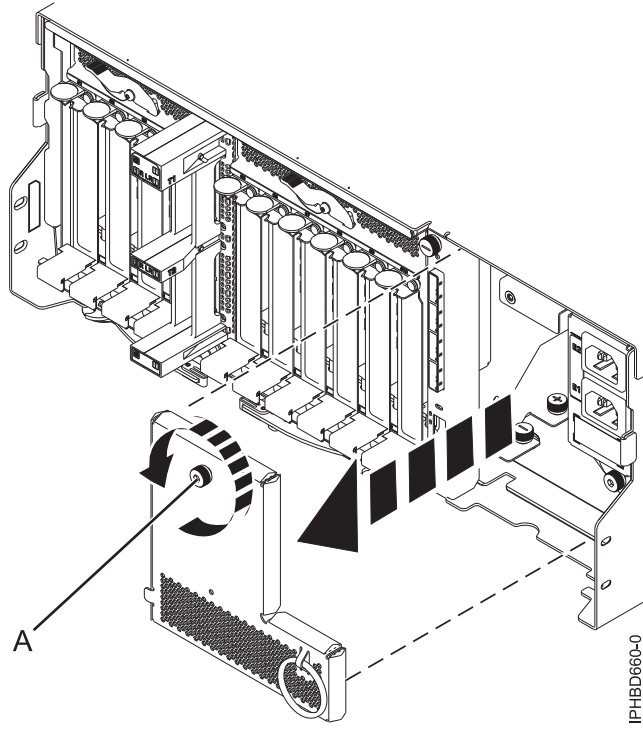

Figure 28. Removing an input power distribution assembly cover
- On the input power distribution assembly cover, loosen the thumbscrew **(A)**, and then remove the cover as shown in Figure 28 on page 27.